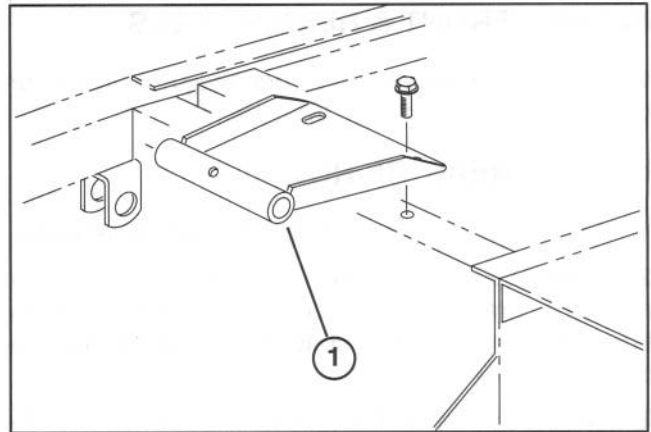

Figure 6
8. Mount seat pivot bracket to frame with (2) flange screws supplied in kit (Fig. 6)
10. Mount seat pivot bracket to frame with (2) flange screws supplied in kit (Fig. 6)